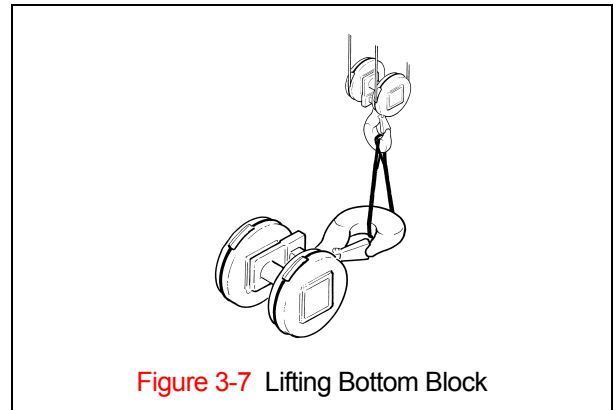

Figure 3-7 Lifting Bottom Block
- 3) Remove the Bottom Block from the pallet/packing and place it on the ground. Use a hoist or other suitable lifting means to pickup the Bottom Block if it is heavier than 50 pounds (weight is written on the container if it exceeds 50 pounds). Always lift/hold the Bottom Block from the Hook regardless if it is lifted using a hoist or handled manually (see Figure 3-7).